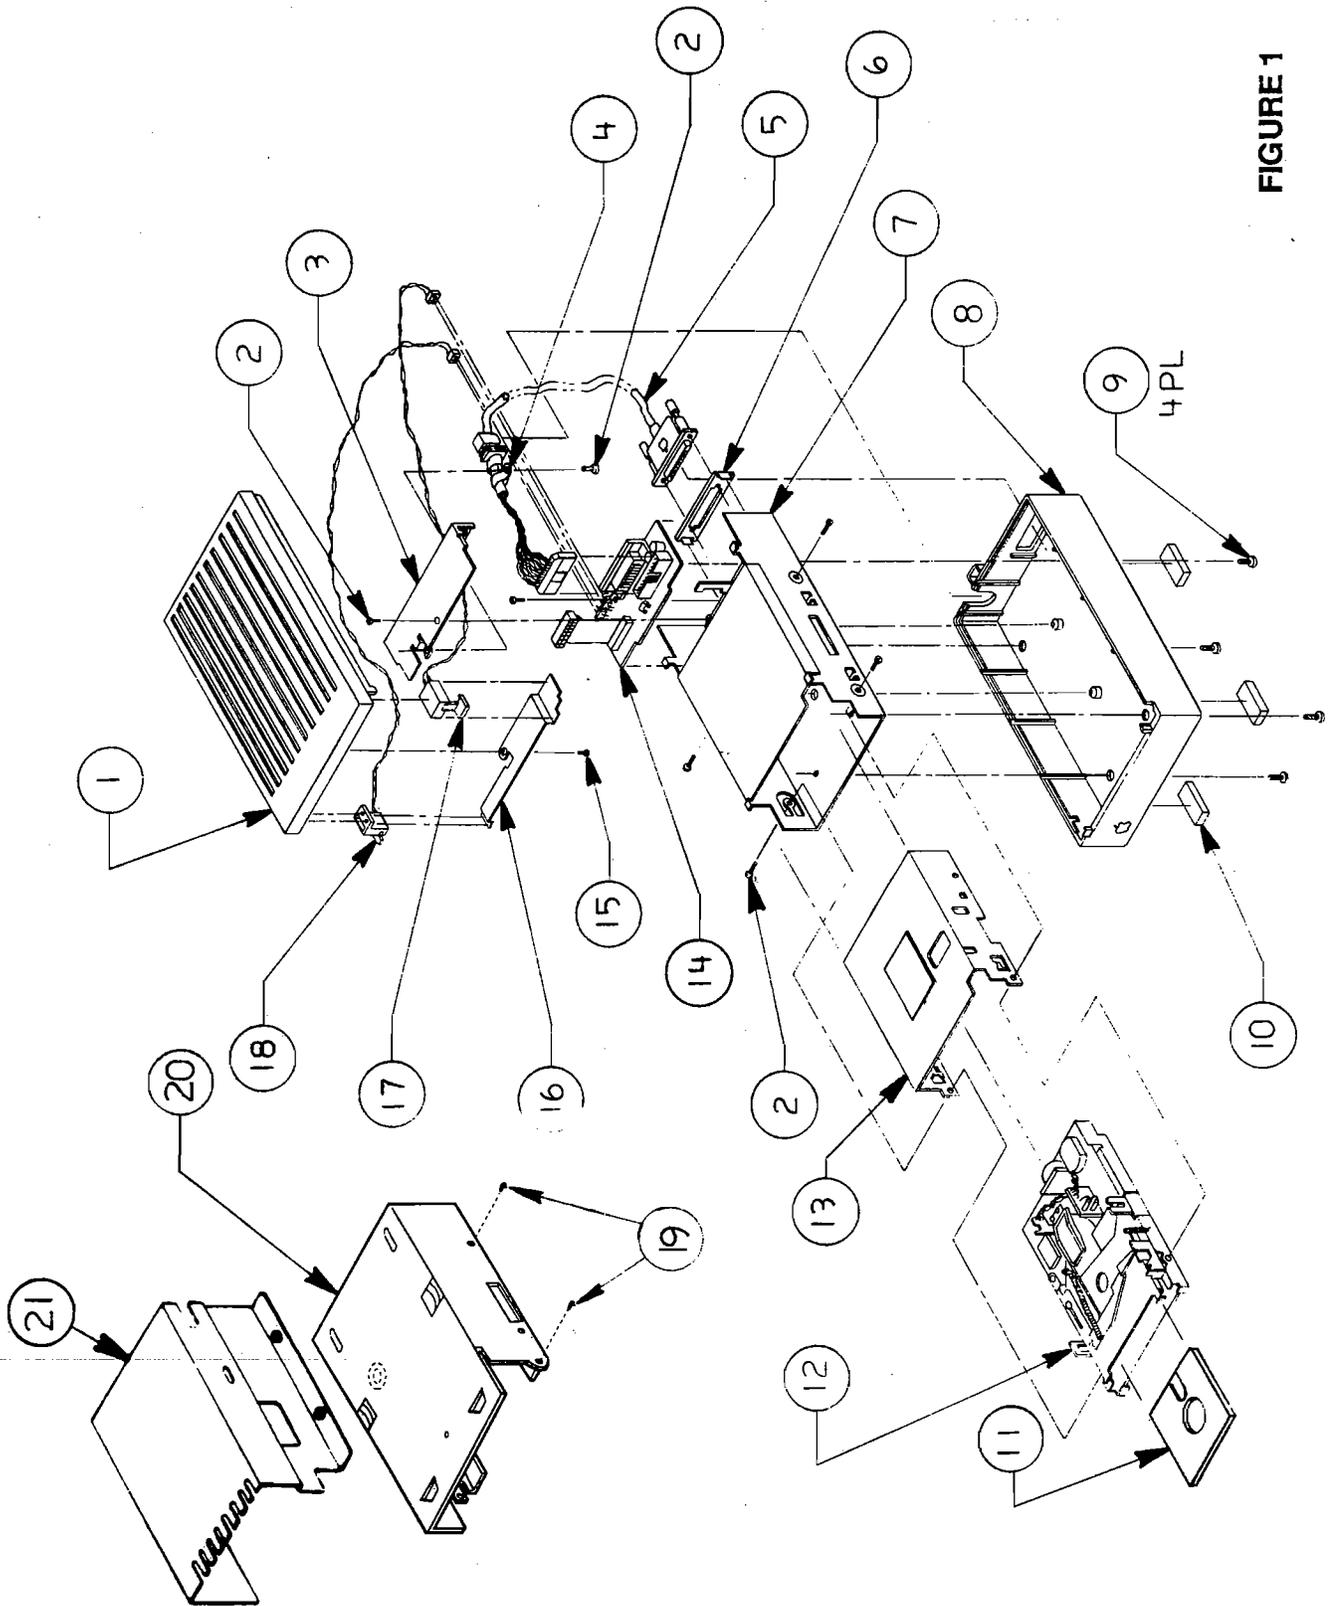

FIGURE 1
□ **FINISHED-GOODS ASSEMBLY (Figure 1)**